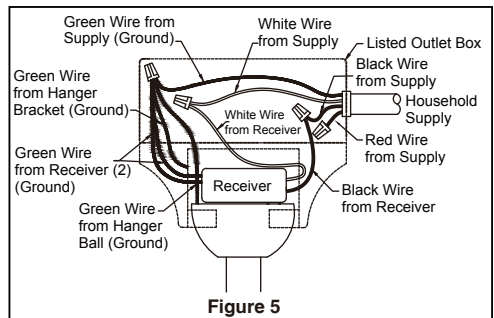

Figure 5
5. Thread downrod into the downrod support on top of the motor. Install the clevis pin by aligning the holes in the downrod support with holes in the downrod. Secure clevis pin with hairpin clip. Tighten the two set screws with nuts in the downrod support. (Figure 5)
4. After connections have been made, put the white and green leads to one side and the black leads towards the other side, the connection should be turned upward and carefully push leads into the outlet box. The wires should be spread apart with the grounded conductor and the equipment-grounding conductor on one side of the outlet box and the ungrounded conductor on the other side. (Figure 5)
5. To set the remote code same positions as the receiver with a small screwdriver or ball point pen (neither included), slide dip switches firmly up or down. (Figure 5)